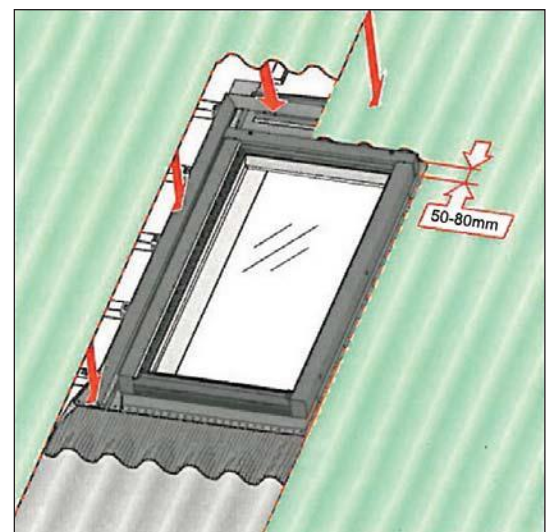

Fig 20
- 22) The top of the purlins, line up with groove marked "N" on the roof window frame (Fig 20). Insert flashings as per instructions on page 6.